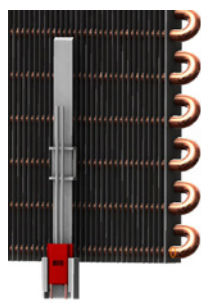

Figure 1b: Installation on Coil Fins
- Sensor Mounting to Coil (Figure 1b):**